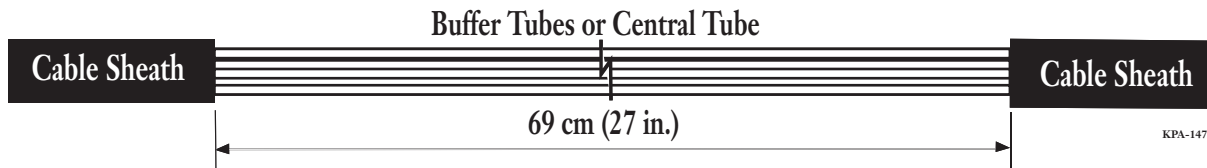

Figure 3 — Recommended Sheath Removal Length for Taut Sheath Applications in SCA-9T34 ONLY
- For taut sheath applications, remove cable sheath as indicated in Figure 3. Taut sheath applications are possible only in the SCA-9T34 terminal.